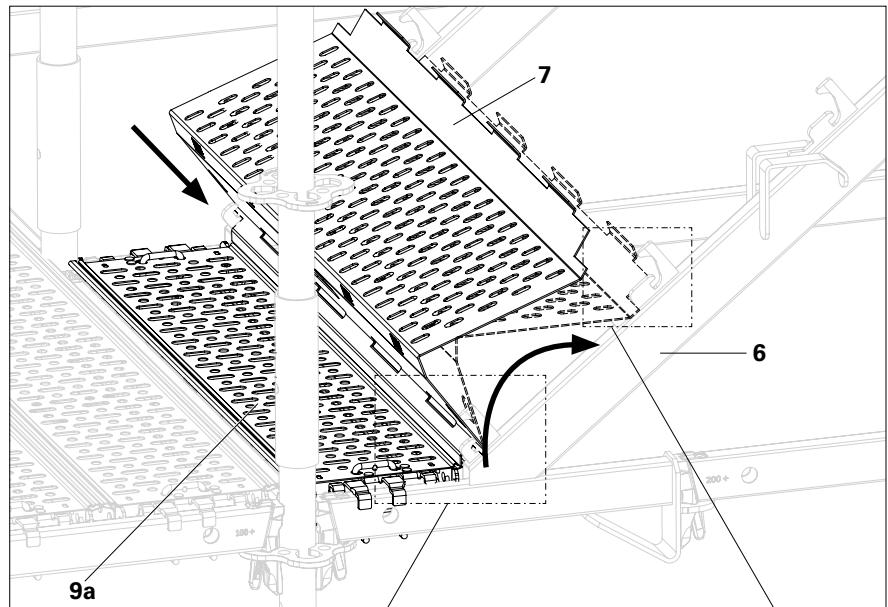

Fig. A2.03
2. Tilt the first step (**7**) backwards slightly and place it in the lowest support of the Stair Stringers UA (**6**) as in (Fig. A2.03).
3. Tilt the step forwards into the supports of the Stair Stringers UA. (Fig. A2.03)